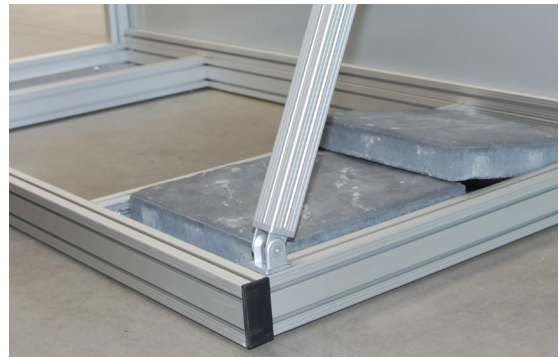

fig. 3.1-28
**Step 19** Place the weights **A4** at the rear side of the frame base (**fig. 3.1-28**). Please be aware of the industrial safety regulations (20 kg | 44 lbs per weight).
**Step 20** Finally, put the two (2) black cover caps on the top ends of the side supports and press the four (4) grey PVC combination profiles into the outward lead channels of the side supports (above the cross pieces of the profile connectors, 2 x at the right side and 2 x at the left side).